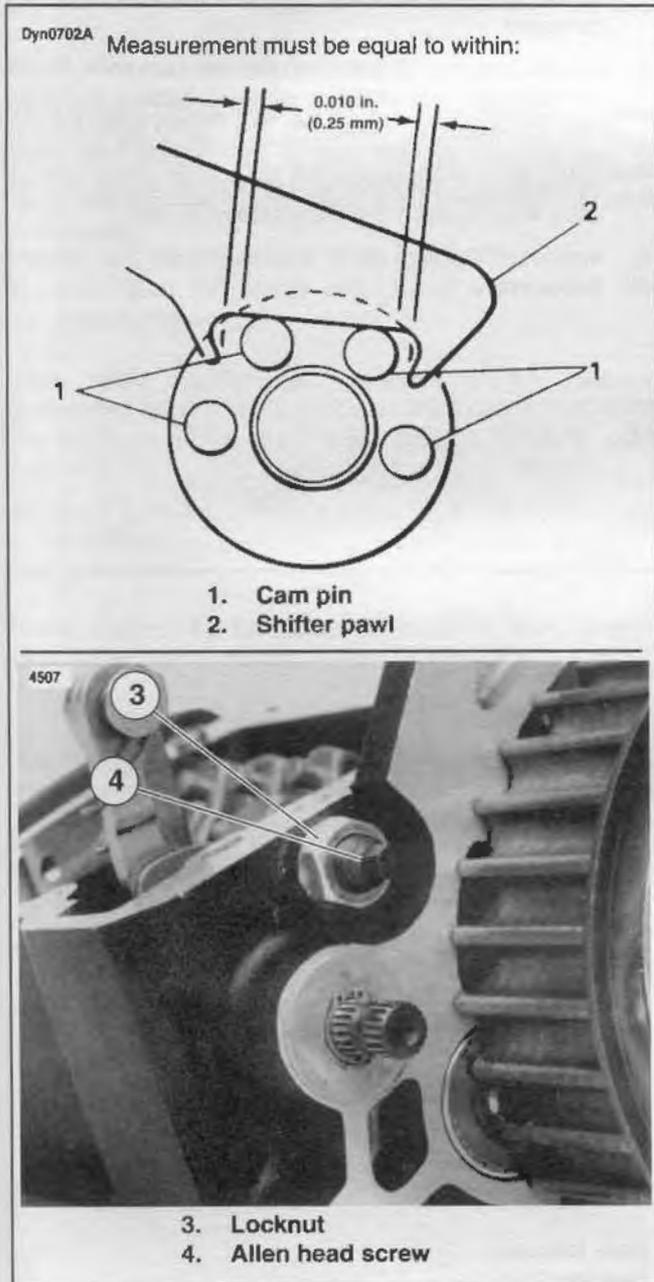

Figure 7-3. Gear Engagement Adjustment
See Figure 7-3. When gears are not engaging properly or not at all, make the following checks before performing Steps 1-4, following:
See Figure 7-3. The spring pressure you feel defines the limits of travel of the shifter pawl (2) against the cam pins (1).
3. Use Transmission Pawl Adjuster, H-D 39618 (all models except FLSTS), or Transmission Pawl Adjuster, H-D 42465 (FLSTS), and loosen locknut (3). Adjust Allen screw (4) in 1/4 in. (6 mm) turn increments or less (either clockwise or counterclockwise) until spring pressure and free play is equal on both sides of shift lever travel.
4. Recheck adjustment after tightening locknut (3).